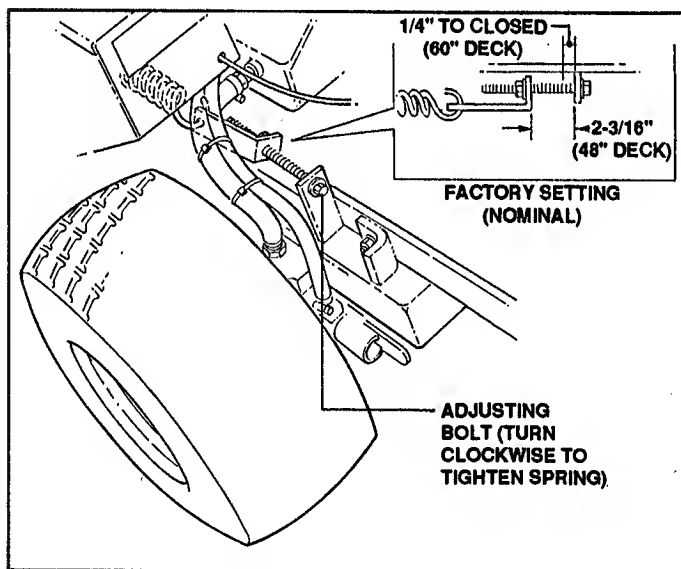

FIGURE 11.6
A. Turn the adjusting bolt counterclockwise (allowing spring to compress) to lessen effort required to operate deck. See Figure 11.6.
Factory setting of deck-lift tension spring is shown in Figure 11.6.